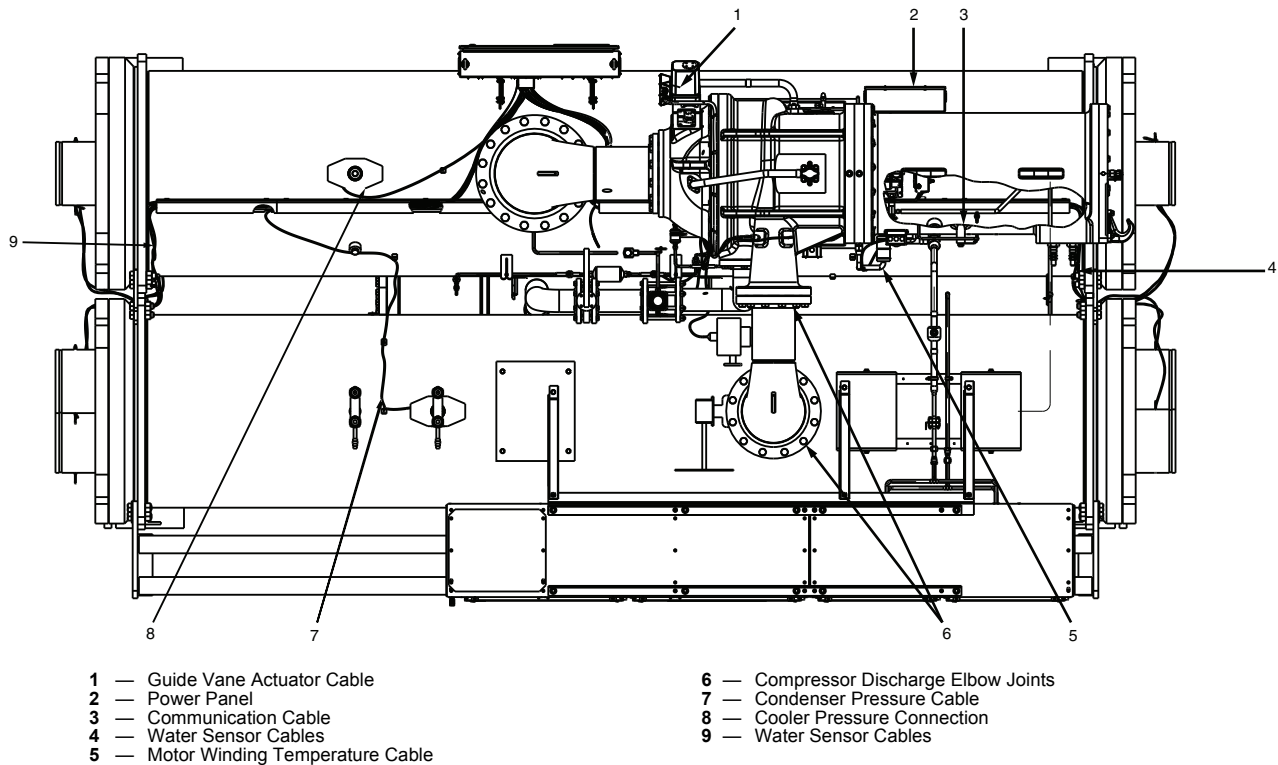

Fig. 17 — 19XRV Chiller Top View
3. Disconnect the compressor discharge elbow at the compressor (Fig. 17, Item 6).
- c. condenser transducer cable at the transducer (Fig. 17, Item 7)
- e. wires and cable housings at the power panel that cross from the VFD to the power panel (Fig. 17, Item 2).
- d. wires and cable housings that cross from the power panel to VFD and control panel (Fig. 17, Item 2)
- h. guide vane actuator cable (Fig. 17, Item 1)
6. Unbolt the compressor discharge elbow (Fig. 17, Item 6).